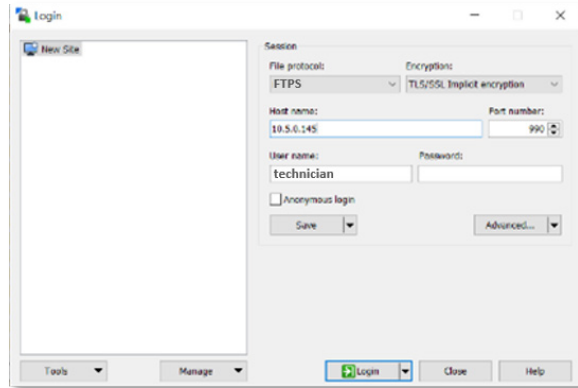

Figure 67: Enter 'technician' as the user name in the FTPS client connection.
2. Enter 'technician' as the FTPS user name as shown in **Figure 67**, enter the password as defined in the maintenance menu, and then click **Log On** or **Connect**.